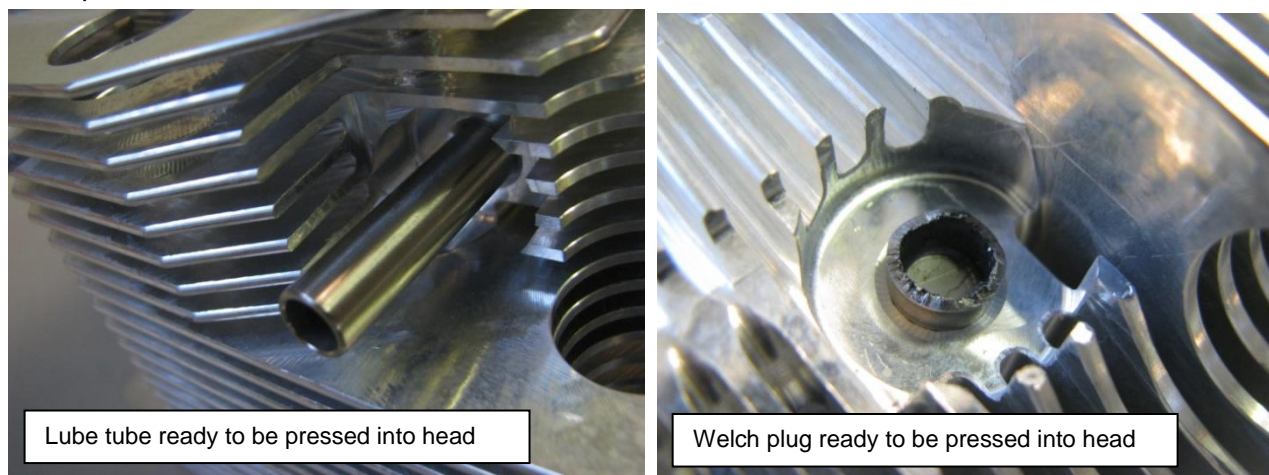

Figure 142 – Cylinder Head Welch Plug & Lube Tube Installation.
- If new heads are being fitted to an engine then in most cases some small Welch plugs must be fitted to the head. For engines using the external oil feed tube for the rocker gear small tubes must also be fitted to the head. Both of these parts are pressed into the cylinder head (Figure 142).
- For engines using the hollow pushrod oil feed system these oil ports in the side of the heads are not used. In that case 2 Welch plugs (Figure 142, right) are fitted to the head – one on each side – to blank off the ports.